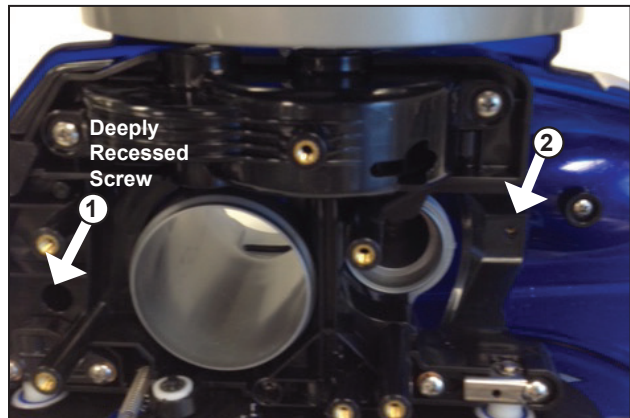

Figure 18. Replace two (2) top housing screws
- Set the Tune Up Kit on its side and replace two (2) screws to secure the top housing (Figure 18).